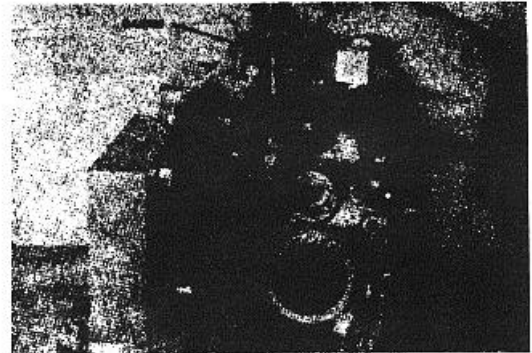

Figure 4-56. Replacing tachometer drive cover.
4. Assemble tachometer cover and gasket to the fuel pump housing. Fig. 4-56.